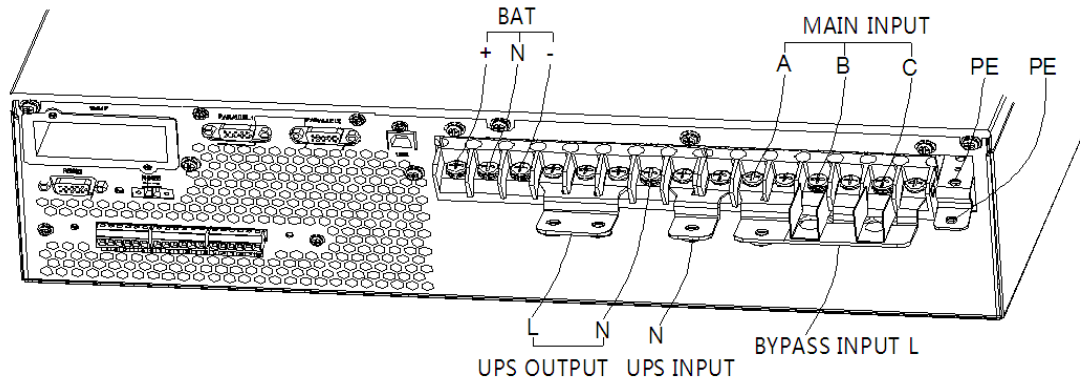

Fig. 3-15 3 phases in 1 phase out, common input
- 2、 Short-circuit mA, bA, bB, bCwith No.6 copper bar; Short-circuitBAT-N, oN, bN, mN with No.7 copper bar; Short-circuitoA, oB, oCwith No.4 copper bar .As shown in figure 3-15,